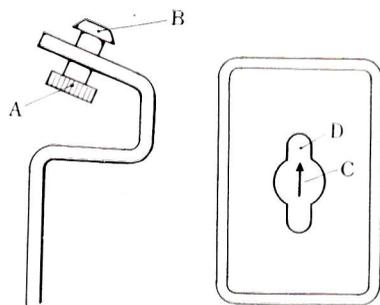

Fig. 7
- a. Take out the table clamps from the parts box. Lift up the front of the knitter, push in the head of screw (B) to the hole of (C), slip in (B) to (D), and fasten(A). Fasten the machine to the table by table clamps. (See Fig. 7)